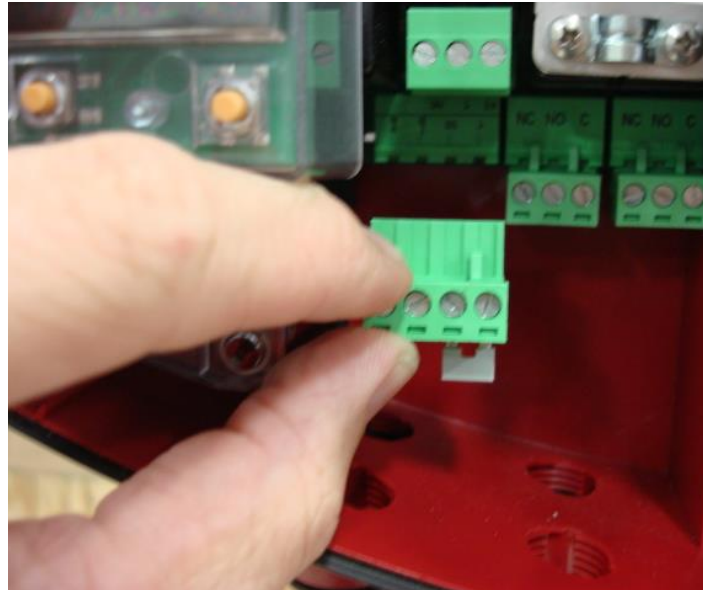

Figure 1: Remove Start/Stop jumper before wiring pump.
2. Remove start/stop plug. Before attaching power, remove the Start/Stop jumper (remove the entire green plug with the jumper). This will prevent the pump from starting when eventually powered. See Figure 1.